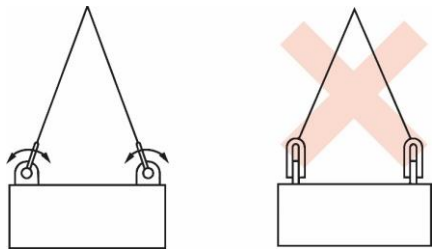

Figure 1
- Shackles should not be used in a way that creates lateral loads. This means that the body of the shackle should be loaded along the axis of its centre line (see Figure 1).